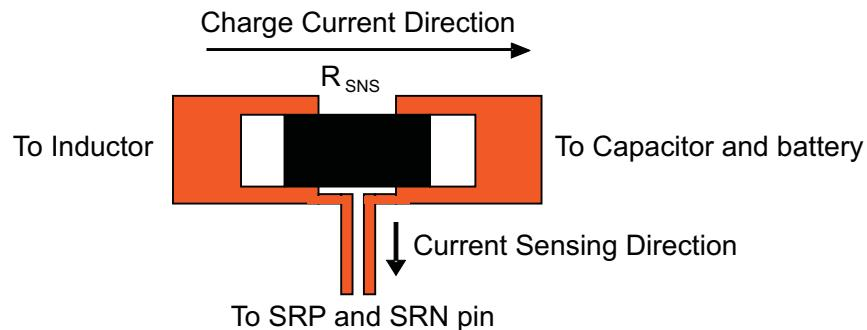

图 28. Sensing Resistor PCB Layout.
4. The charging current sensing resistor should be placed right next to the inductor output. Route the sense leads connected across the sensing resistor back to the IC in same layer, close to each other (minimize loop area) and do not route the sense leads through a high-current path (see 图 28 for Kelvin connection for best current accuracy). Place decoupling capacitor on these traces next to the IC